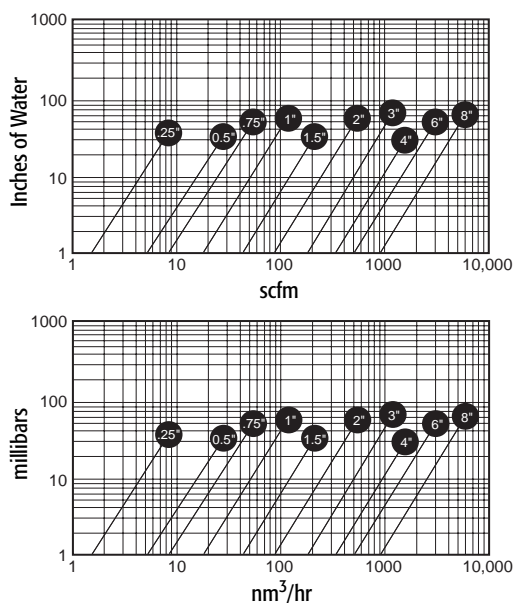

Figure 1: Insertion 4" to 36" (10.2 to 91.4 cm)
Probe Lengths (LL) – see figure 1 = 4.0(10.2), 6.0(15.2), 9.0(22.9), 12.0(30.5), 15.0 (38.1), 18.0(45.7), 24.0(61.0), 30.0(76.2), 36.0(91.4)